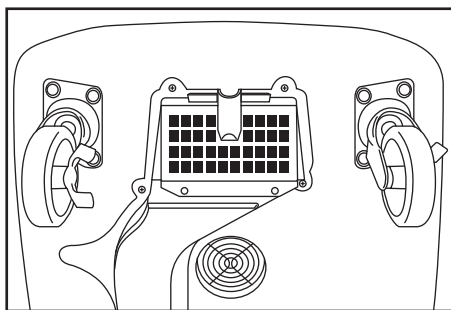

Fig. 6
9. The unit is equipped with an odor control carbon filter that should be changed every 6 months (Fig.6).